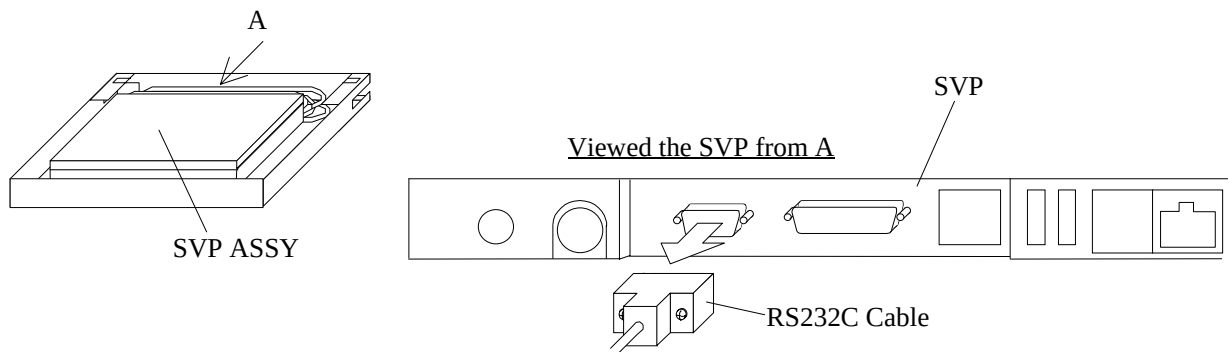

Fig. 3.18-15 Removing and installing RS232C Cable
- a. Attach the SVP and RS232C Cable. (See Fig. 3.18-15.)